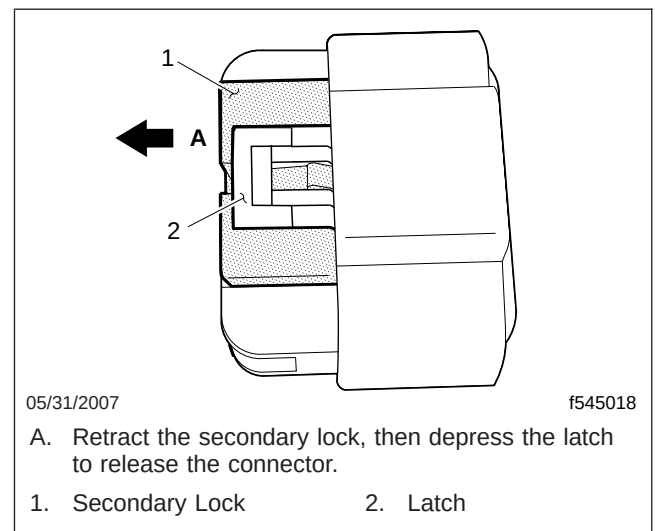

Fig. 2, Clutch Control Switch Connector
- 6.1 Retract the secondary lock. See Fig. 2.